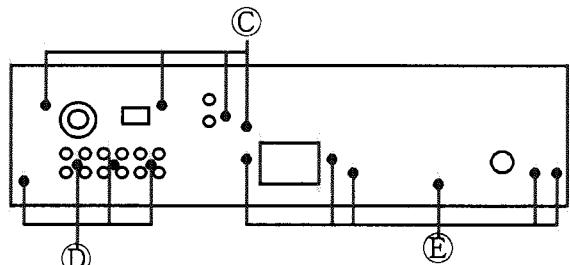

Fig 2. Rear View
3. Remove the 2 screws ⑤.
4. Remove the 4 screws ⑥ (Fig 2).
3. Remove the screws ⑧, ⑨ and ⑩ (Fig 2).